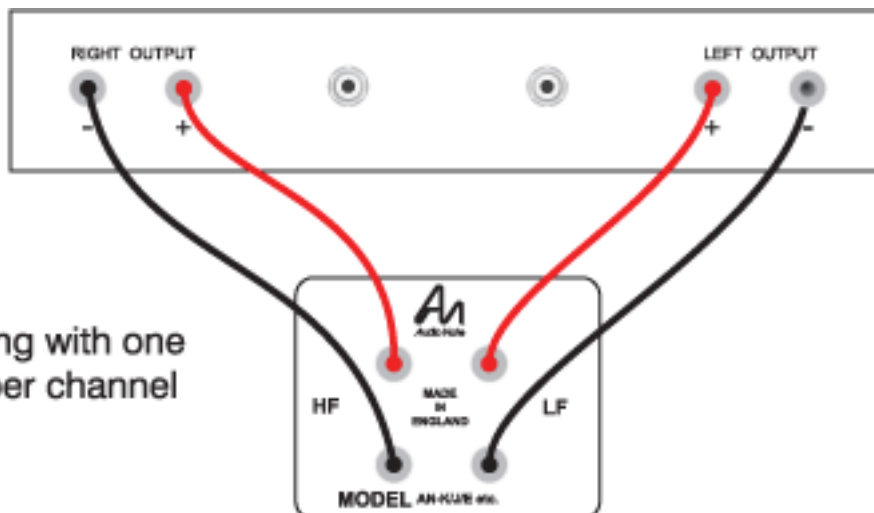

Figure 3. Bi-amping with one stereo amplifier per channel
**Figure 3** shows both channels of a stereo amplifier driving one loudspeaker system. In the illustration, the right channel is driving the HF unit; the left channel drives the LF unit. This would be repeated with the second stereo amplifier and the other loudspeaker system.